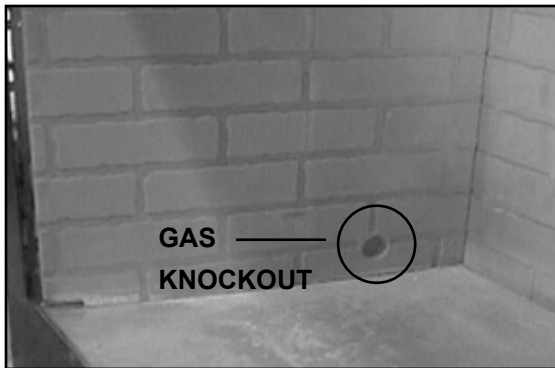

Figure 4.15 Gas Knockout
**Note:** To ensure proper installation, gas knockouts in the side refractory should be positioned towards back of fireplace. See Figure 4.15.